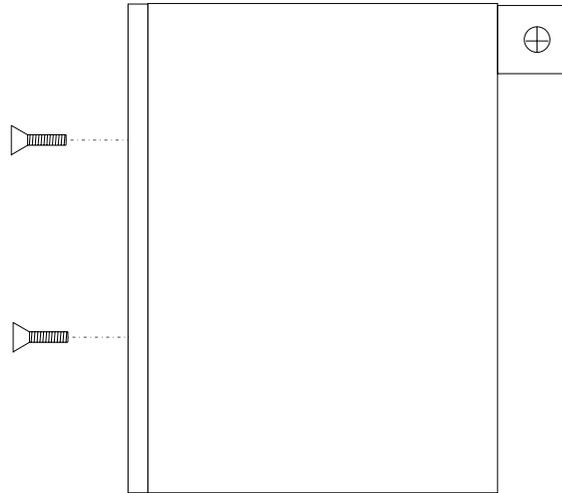

Figure 8-8. Location of Floppy Disk Drive Assembly Mounting Plate Screws
- Step 4.** Remove the three screws that fasten the floppy disk drive mounting plate to the chassis and to the Test Set Module tray (see Figure 8-8).